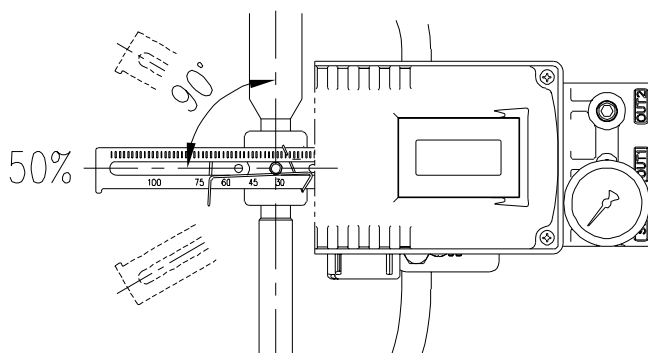

Fig. 3-6: C330L Feedback lever and valve stem
- 7) Check if feedback lever is vertical to the valve stem at 50 % of the valve stroke. If it is not vertical, adjust the adapter holder on the actuator's stem to make vertical – **DO NOT TIGHTEN THE ADAPTER HOLDER COMPLETELY.** Improper installation may cause poor linearity. Refer to Fig 3-6.